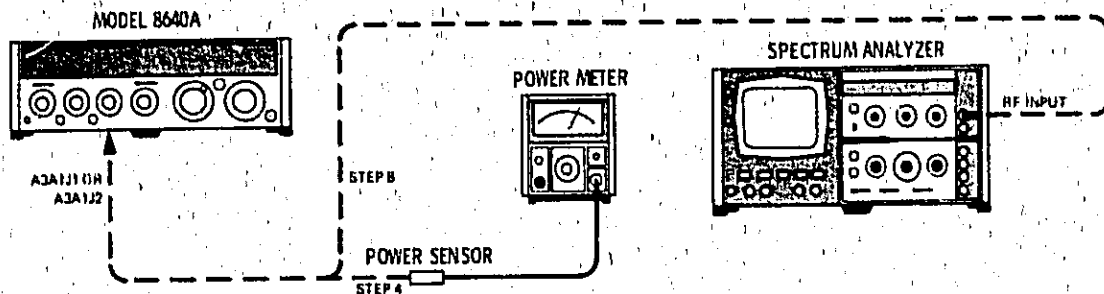

Figure 5-6. RF Oscillator Output Power Adjustment Test Setup
4. Connect power meter sensor to oscillator output connector A3A1J1. See Figure 5-6.